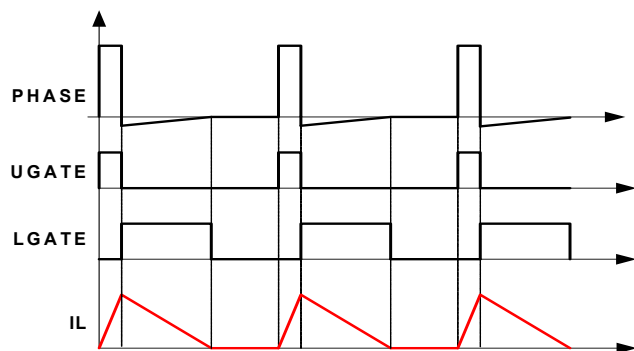

FIGURE 10. DIODE EMULATION
The ISL62771 can operate in Diode Emulation (DE) mode to improve light-load efficiency. In DE mode, the low-side MOSFET conducts when the current is flowing from source-to-drain and does not allow reverse current, thus emulating a diode. Figure 10 shows that when LGATE is on, the low-side MOSFET carries current, creating negative voltage on the phase node due to the voltage drop across the ON-resistance. The ISL62771 monitors the current by monitoring the phase node voltage. It turns off LGATE when the phase node voltage reaches zero to prevent the inductor current from reversing the direction and creating unnecessary power loss.
If the load current is light enough (see Figure 10), the inductor current reaches and stays at zero before the next phase node pulse and the regulator is in discontinuous conduction mode (DCM). If the load current is heavy enough, the inductor current will never reach 0A and the regulator is in CCM, although the controller is in DE mode.